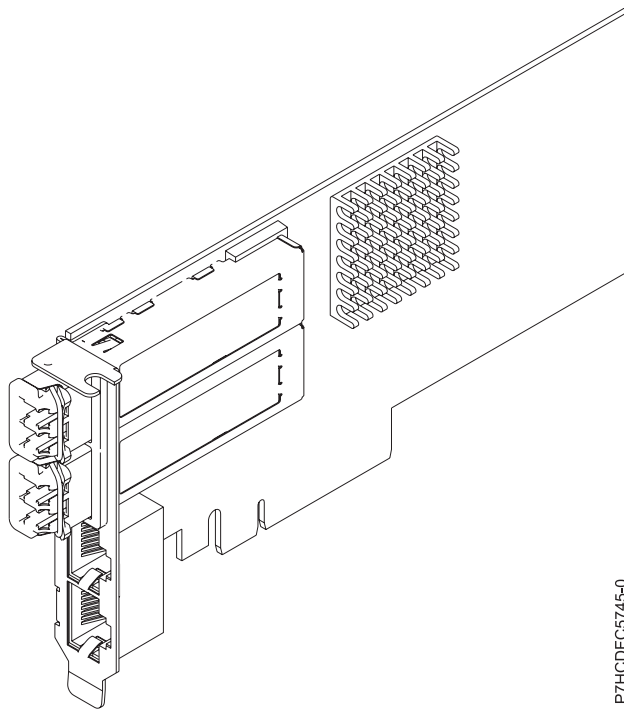

Figure 57. FC EL3C adapter
The four-port adapter provides two 10 Gb FCoE Copper Twin-axial ports and two 1 Gb RJ45 Ethernet ports. The two 10 Gb FCoE ports are connected by little connector-type (LC) connectors. Each FCoE port provides Ethernet connectivity with a nominal data rate of 10 Gbps (gigabits per second). Each of the 1 Gb ports provides Ethernet connectivity at a data rate of 1 Gbps and is connected with Ethernet cables. A 10 Mb data rate is not supported. Figure 57 on page 155 shows the FC EL3C adapter.